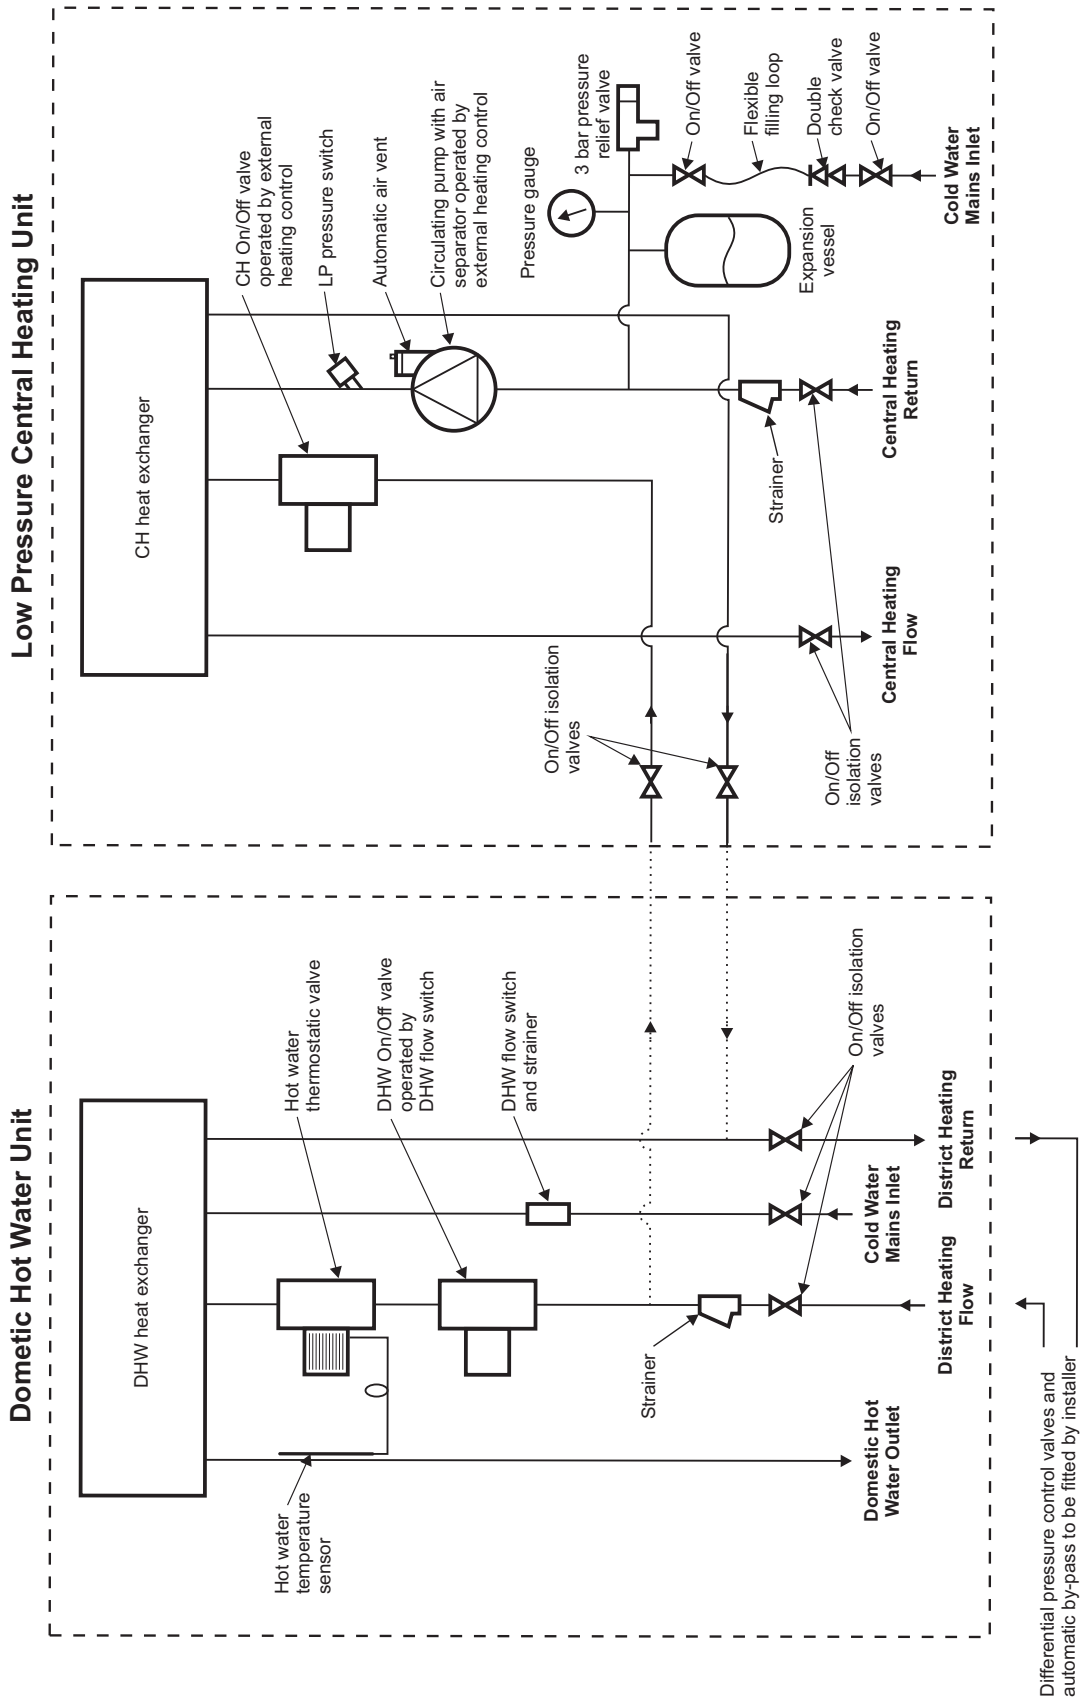

Fig. 1 Low Pressure Central Heating
This unit is to be used in conjunction with the DHW unit and provides central heating to the dwelling indirectly from the district heating circuit via a plate heat exchanger. It incorporates all the necessary components, i.e. pump, expansion vessel, safety valve, pressure gauge, filling loop, pressure switch etc. required to provide a sealed central heating system with a maximum working pressure of 2.5 bar (refer to Fig. 1).
- 4 **If a low pressure central heating unit is used** - fit the 22 mm strainers supplied to the district heating flow pipe and to the central heating return pipe. Fit the 22 mm isolation valves to the central heating flow and return. Ensure the strainers are always fitted after the valves so that isolation allows cleaning of the filter. See Fig. 1.